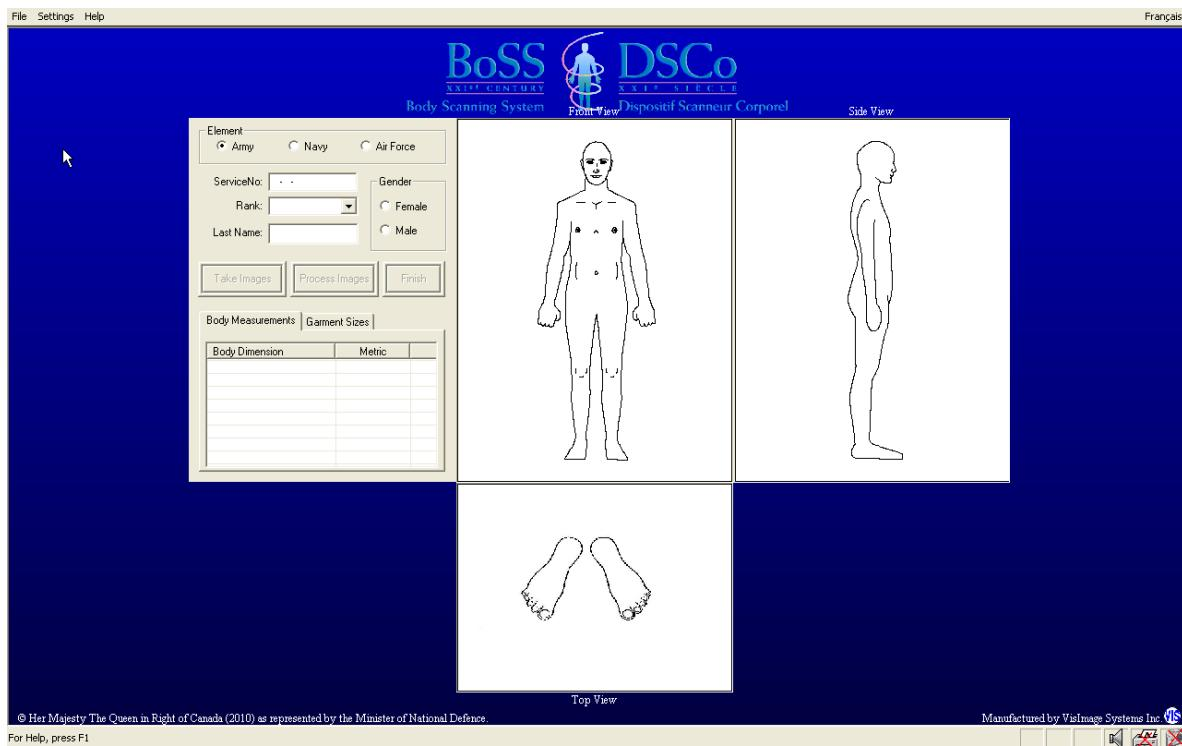

Figure 2-1: The BoSS-21 Main Interface
3. Launch BoSS-21 by double-clicking the **BoSS-21** icon on the desktop. This brings up the main BoSS interface screen, shown in Figure 2-1 below.